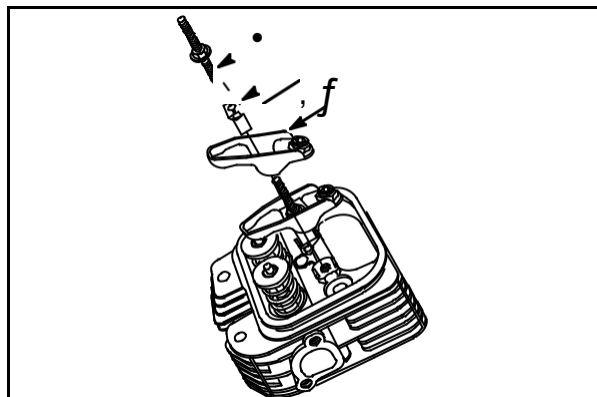
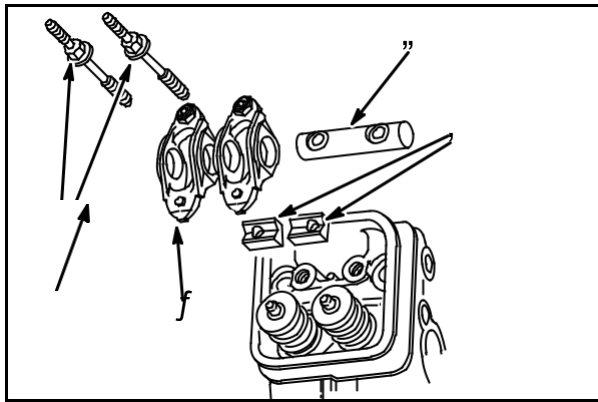

Fig. 4
Fig. 5
Remove two rocker studs (1) supports (2) and rocker arm assemblies (3), **Fig. 4** (current) or **Fig. 5** (early). Remove rocker arm shaft (4, early versions).